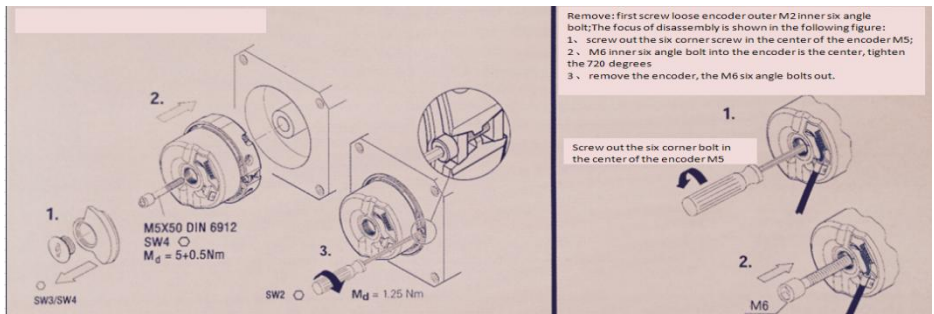

Figure 21
4.5.3.1 Tamagawa encoder installation and disassembly as shown in Figure 21
1. Remove and install the same method with the Tamagawa encoder, please refer to figure 21.